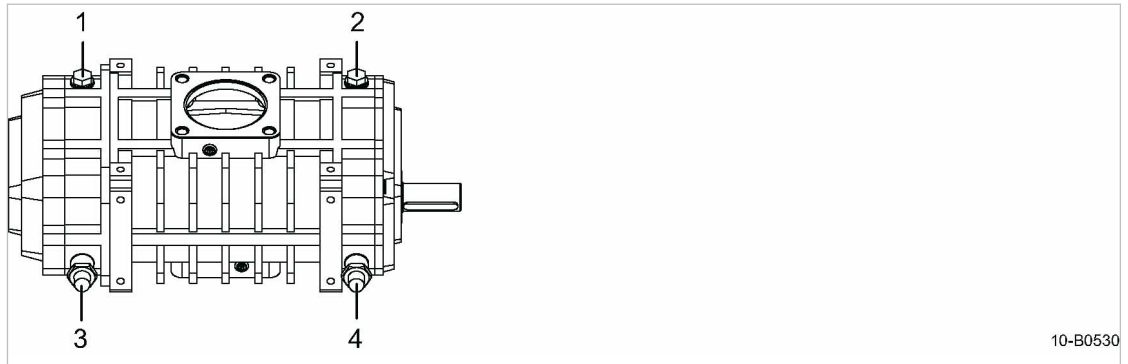

Fig. 34 Replenishing lubricating oil
2. Open the oil filler plugs at the oil inlet of the blower block (1) and (2) (Fig. 34).
3. Take off the caps (1) and (2) and open the oil drain taps (3) and (4).
3. Close the oil drain taps (3) and (4).
4. Check the oil level in both sight glasses (Fig. 34) and top off as necessary.
5. Screw on the caps (1) and (2).